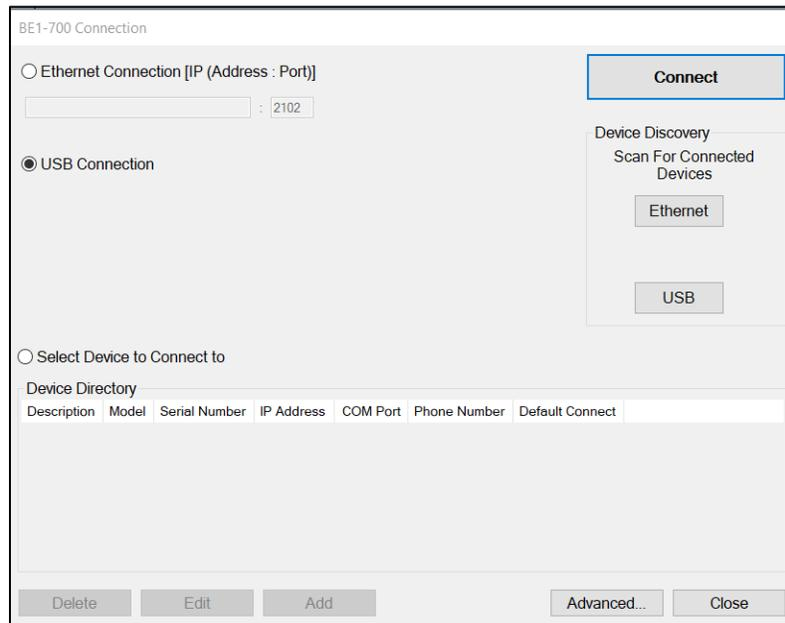

Figure 2-3. BE1-700 Connection Screen
The BE1-700 Connection screen shown in Figure 2-3 appears. Select USB Connection and then click the Connect button.
- Step 2: The BE1-700 Connection screen appears. See Figure 2-3. Select USB Connection and click Connect.